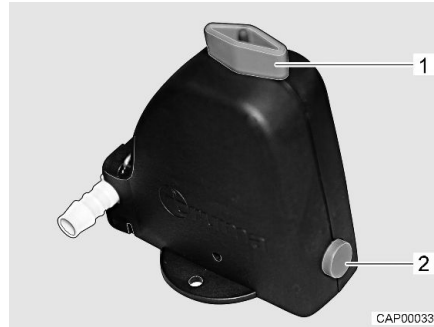
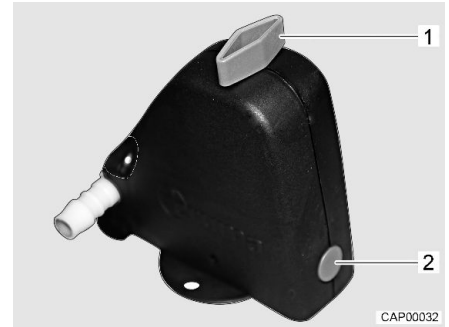

Fig. 97 Safety/drainage valve open
Fig. 98 Safety/drainage valve closed
- Close the safety/drainage valve. Turn the knob (Fig. 97,1) perpendicular to the safety/drainage valve and push the push button (Fig. 97,2) in. The closed safety/drainage valve is shown in Fig. 98. If the temperature is below 6 °C, the safety/drainage valve cannot be closed.